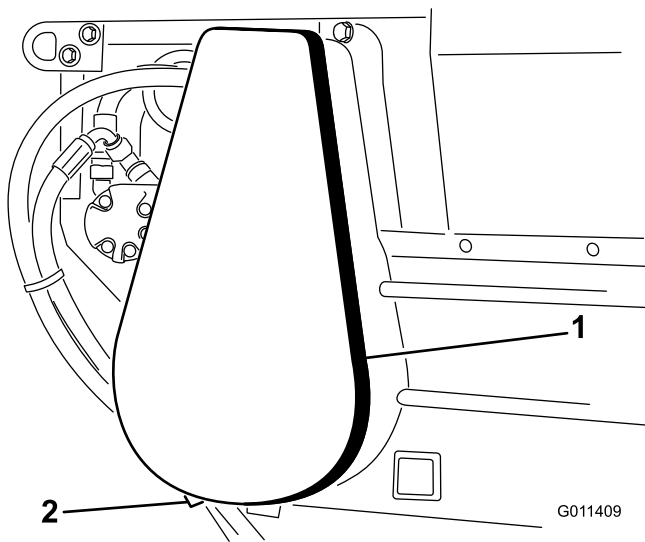

Figure 24
1. Remove the chain cover assembly and spacer (Figure 24).